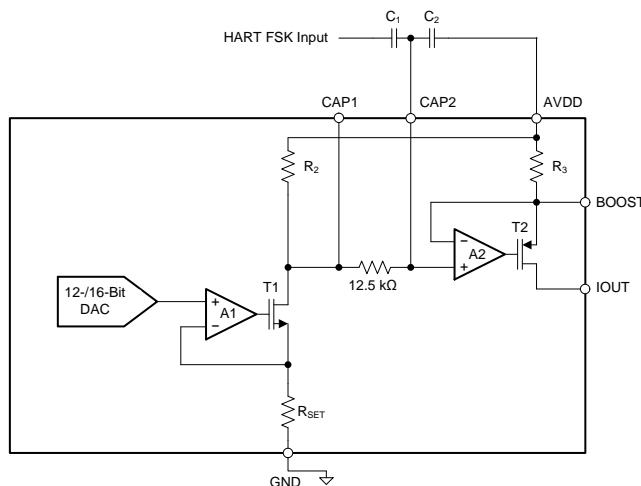

Figure 93. Implementing HART on IOUT Using the CAP2 Pin
The first method of implementing HART is to couple the signal through the CAP2 pin, as conceptualized in Figure 93. Note that this pin is only available in the 40-pin VQFN package.
In Figure 93, R_3 is nominally 40 Ω , and R_2 is dependent on the current output range (set by the RANGE bits) as described below:
1. As is seen in Figure 93, CAP2 is directly connected to the input of the final IOUT amplifier. Any noise or unwanted ac signal routed near the CAP1 and/or CAP2 pins could capacitively couple onto internal nodes and affect IOUT. Therefore, with the QFN package, it is important to avoid routing any digital or HART signal trace over the CAP1 and CAP2 traces.